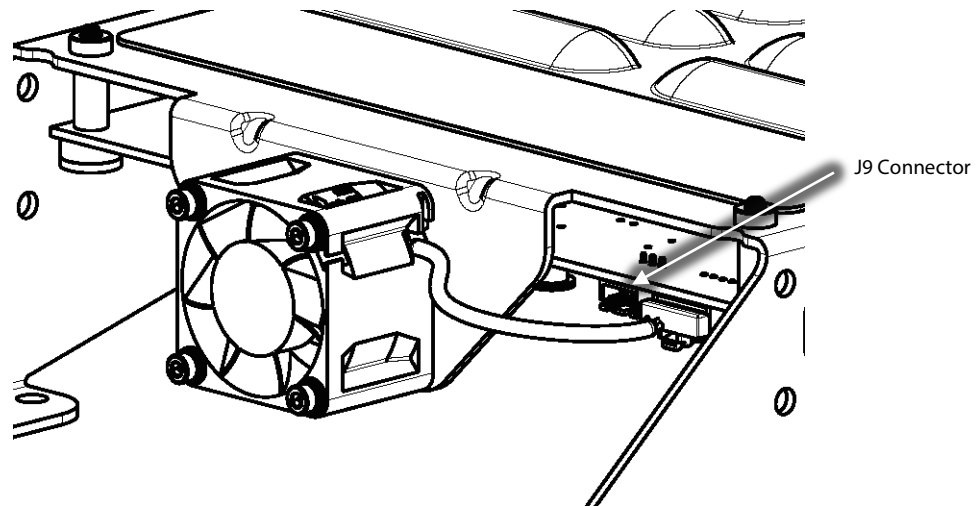

Figure 1 – Soft Start J9 Connector
- Remove the top cover by releasing the nine (9) screws that secure the cover, taking particular care not to touch ANY components underneath.
6. Using an appropriately rated volt meter, check the DC bus bars for voltage level. If the voltage is above 5VDC, wait five (5) minutes and recheck until 5VDC or below is achieved.
7. Remove the Capacitor Cover by releasing the six (6) screws that secure the cover.
8. For F Series and later compressors, remove the Soft Start Temperature Harness. Refer to Figure 1 (Soft Start J9 Connector).